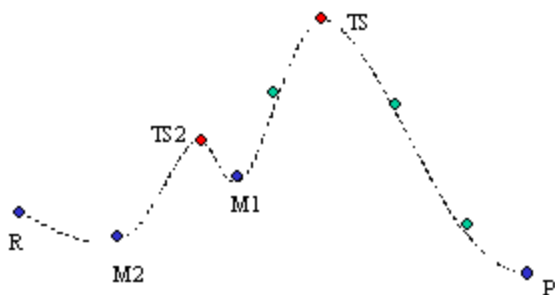

Figure 1
Consider the complex reaction pathway in Figure 1. An LST/QST transition state (TS) search algorithm takes the two endpoints R and P as input and locates one of the local maxima on the reaction coordinate. Assume that in this example it locates the highest energy barrier, TS.
The *TS Confirmation* algorithm will take these three points as input and return a trajectory that contains at least one point in the vicinity of the new minima; in this case, M1 or M2. Points are shown in Figure 1 as blue (minima) and red (maxima). In general, the path will also contain a few points that do not correspond to stationary points (green).